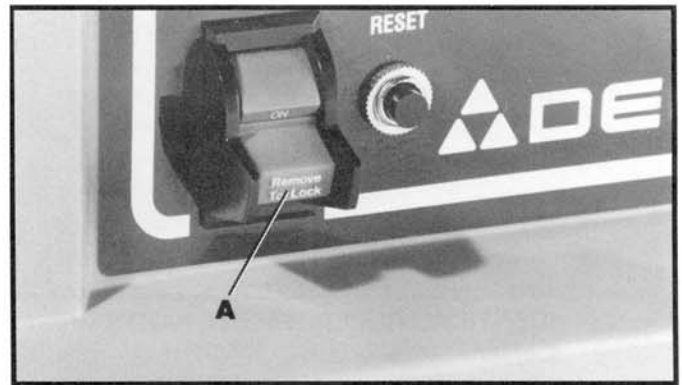

Fig. 18
The on/off switch (A) Fig. 18, is located on the front of the saw cabinet. To turn the saw "ON" move the switch (A) to the up position. To turn the saw "OFF," move the switch (A) to the down position